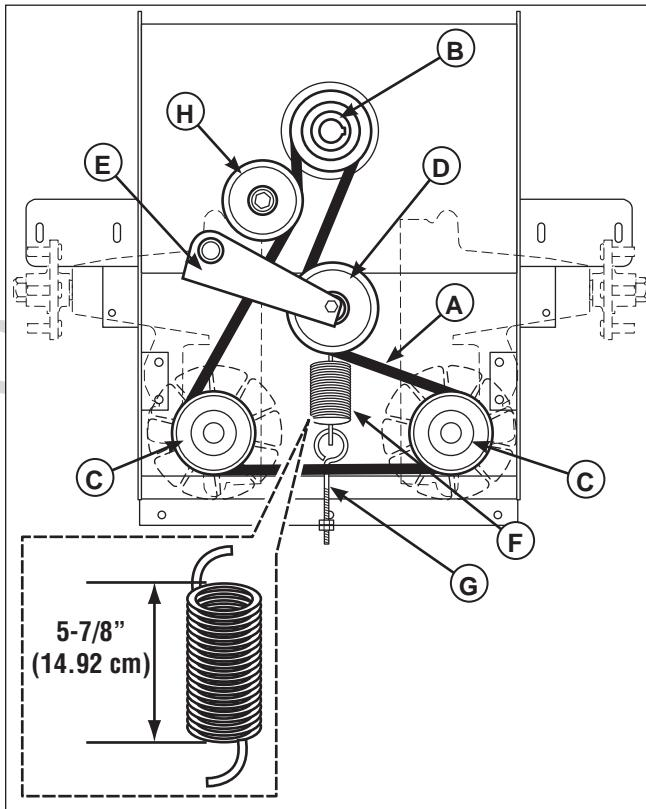

Figure 44. Hydraulic Pump Drive Belt Replacement
4. Loosen the nut on the spring anchor eyebolt (G, Figure 44) to release the majority of the belt tension. Use caution and remove the nut to completely release the tension.
6. Reinstall the spring anchor eyebolt (G) into the anchor tab and loosely fasten the nut. Adjust the anchor eyebolt until a measurement of 5-7/8" (14.92 cm) is achieved from the outside of the spring hooks. Tighten nut.